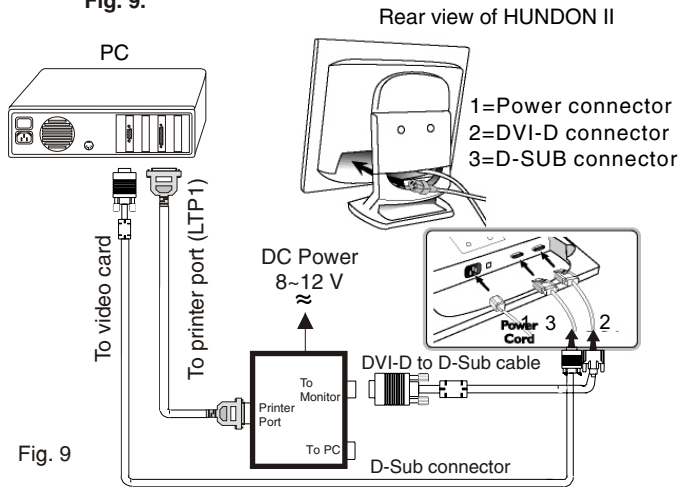

Fig. 9
Step 1: Connecting all cables and alignment box as shown in Fig. 9.